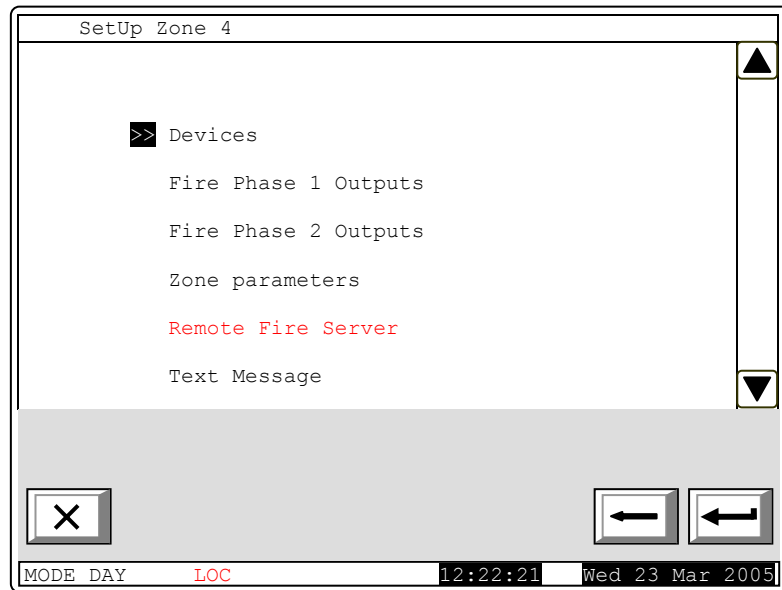

fig.4
- Step back and go to the main zone setup menu (fig. 4)